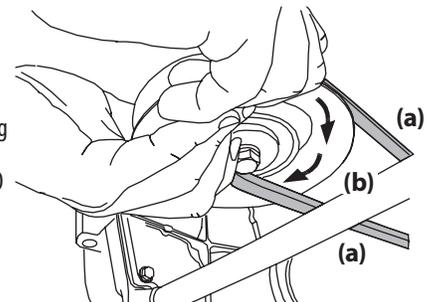

Figure 47
- d. While still holding the PTO belt (a) downward, continue turning the PTO pulley (b) until the PTO belt (a) is rolled off the PTO pulley (b). Refer to Figure 47.
- While holding the PTO belt and PTO pulley together, rotate the PTO pulley to the left (see Figure 47 on page 21). Continue holding and rotating the PTO pulley and PTO belt until the PTO belt is fully rolled into the PTO pulley.